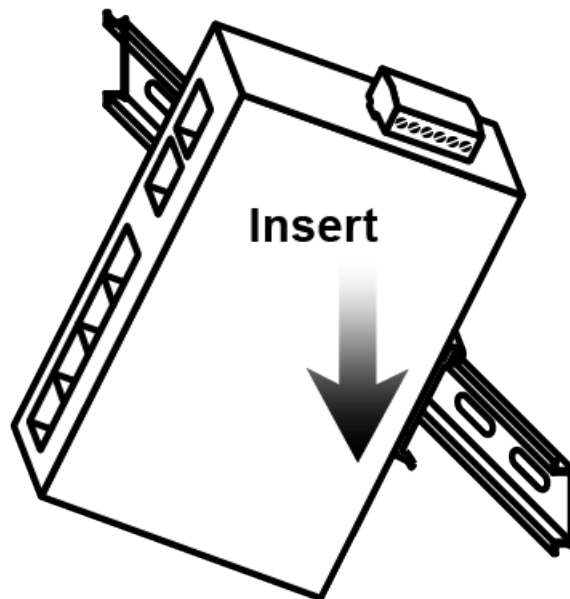

Figure 3.2: Insert the Media Converter on the DIN-Rail
Step 3. After the DIN-Rail bracket is installed on the rear side of the Media Converter, insert the top of the DIN-Rail on to the track as shown below in Figure 3.2.